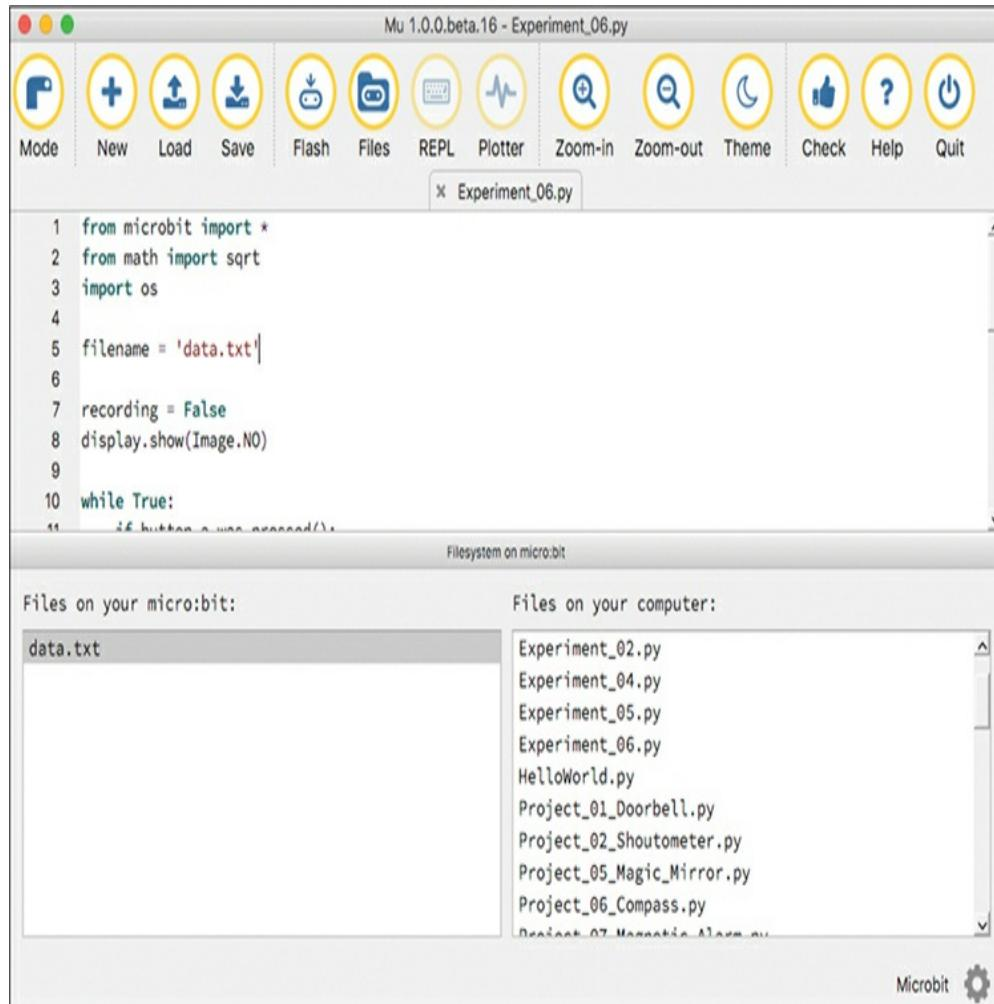

Figure 5-9: Mu's File feature in action
3. To transfer the file containing the readings to your computer, use Mu's **Files** feature. Connect your micro:bit to your computer with a USB cable and click the **Files** icon in Mu's toolbar (Figure 5-9).
The bottom of the window now has two columns. On the left are the files saved on the micro:bit. In Figure 5-9, there is only one file, *data.txt*. On the right are the files in Mu's code directory, which is in your home directory under *mu code*.